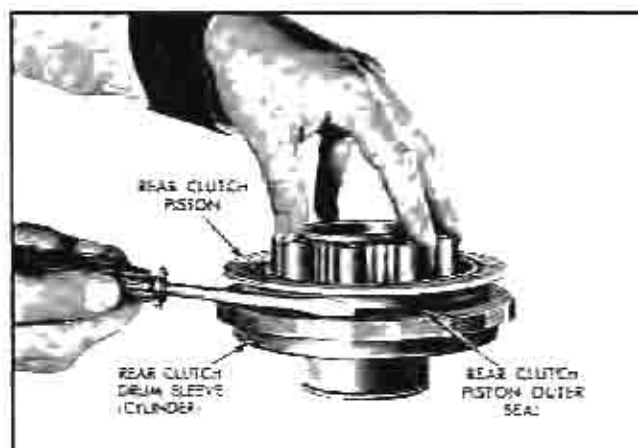

Fig. 91 Installing Rear Clutch Piston into Rear Clutch Drum Sleeve (Cylinder)
b. Install new outer seal on piston with lip facing away from spring bore side (Fig. 91).
c. Start piston into cylinder using flat edge of screwdriver to compress seal (Fig. 91); then press piston into place.